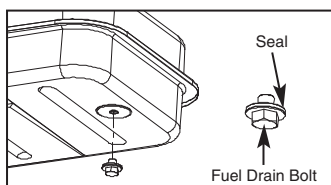

Figure 12 - Drain Bolt
5. Reinstall Fuel Drain Bolt to Fuel tank and tighten firmly using 3/4" socket or adjustable wrench. (For Models 3VE50E, 3VE51E, 3VE52E only. See Figure 12)